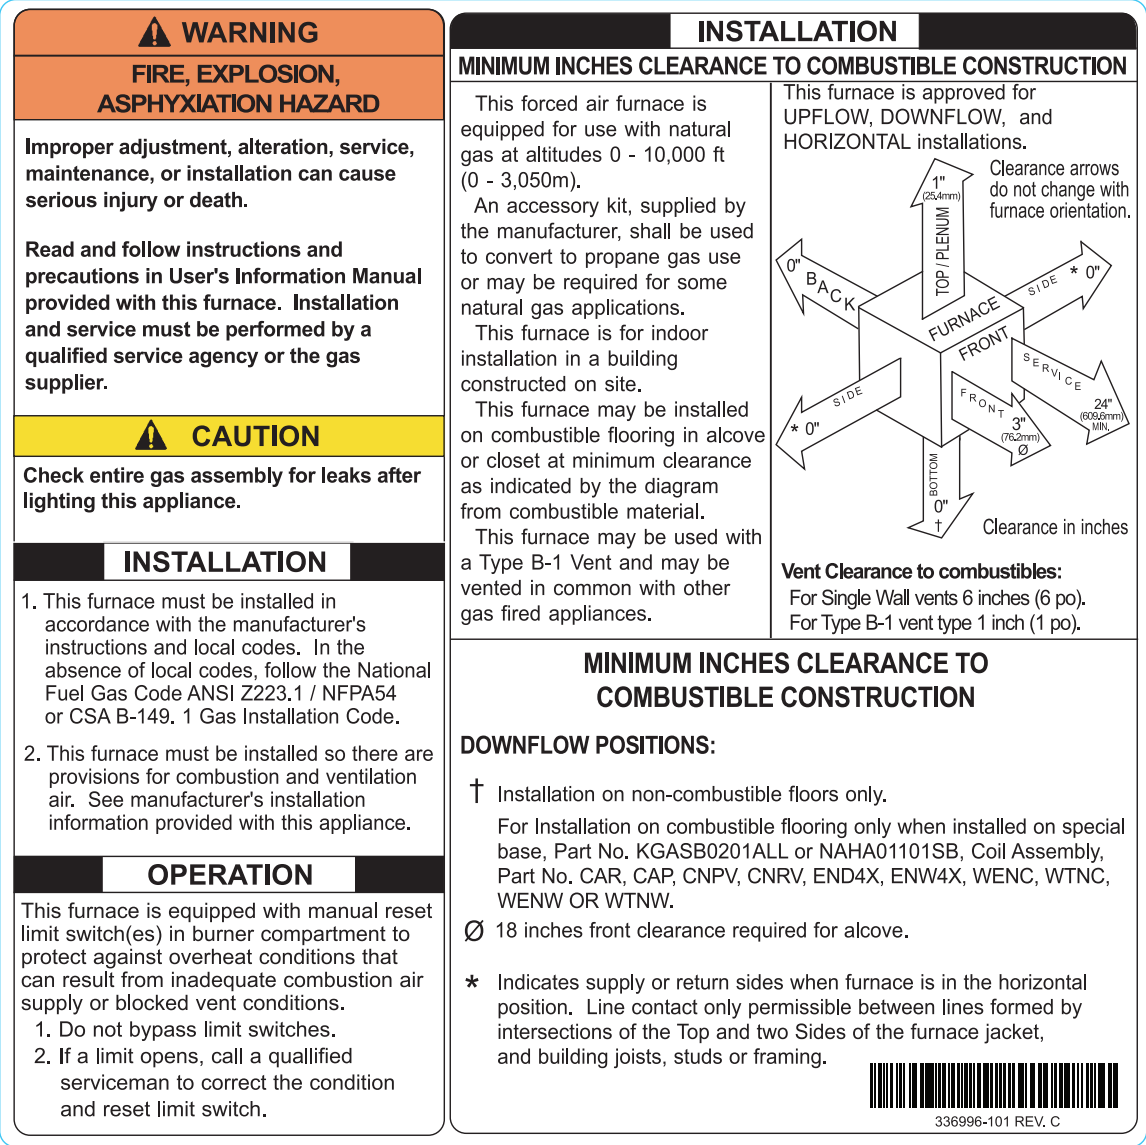

Fig. 2 - Clearances to Combustibles
11. See Fig. 2 for required clearances to combustible construction.
13. These furnaces SHALL NOT be installed directly on carpeting, tile, or any other combustible material other than wood flooring. In downflow installations, factory accessory floor base MUST be used when installed on combustible materials and wood flooring. Special base is not required when this furnace is installed on manufacturer's Coil Assembly Part No. CAR, CAP, CNRV, and CNPV, or when Coil Box Part No. KCAKC is used. See Fig. 2 for clearance to combustible construction information.